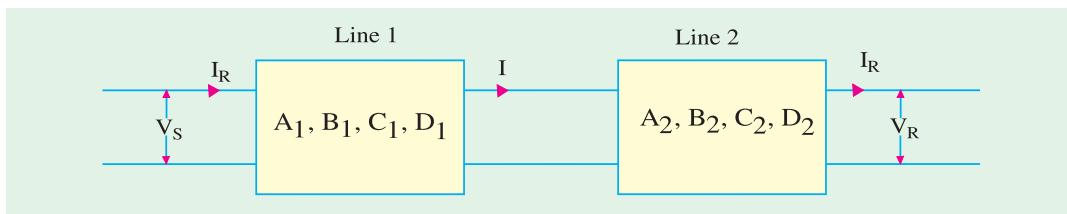

Fig. 41.43
**Solution.** The two series-connected lines along with their constants as shown in Fig. 41.43.